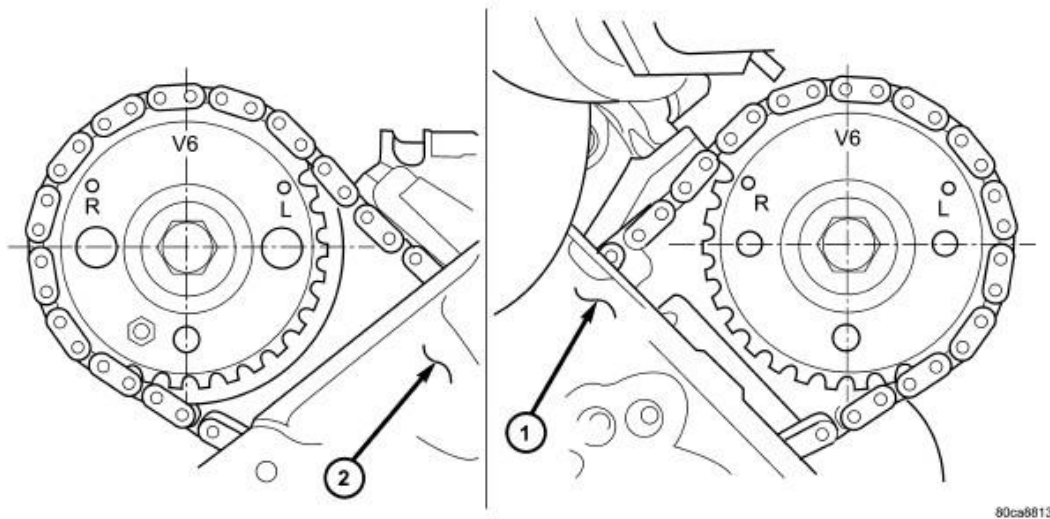
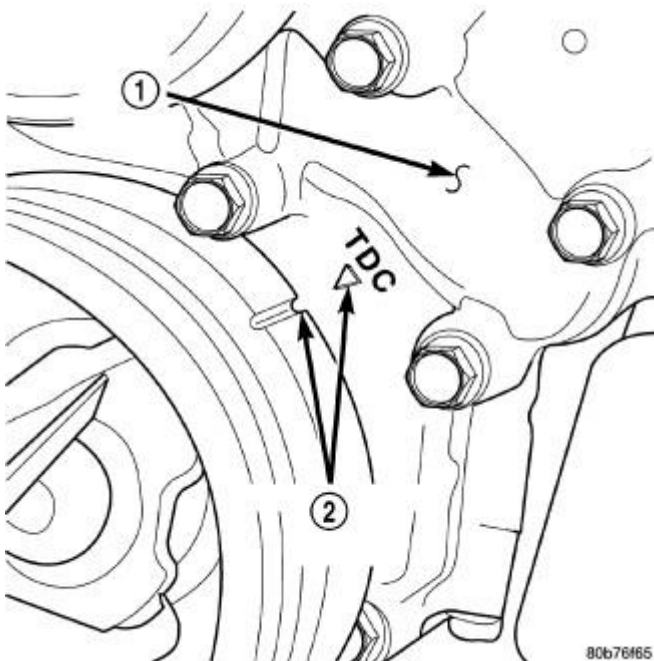

Fig. 164: Camshaft Sprocket V6 Timing Marks
Fig. 165: TDC Indicator Marks
5. Rotate engine until the timing mark on crankshaft damper (2) aligns with TDC mark on timing chain cover (2) and the camshaft sprocket "V6" marks are at the 12 o'clock position (No. 1 TDC exhaust stroke). Refer to **Fig. 164**. Refer to **Fig. 165**.